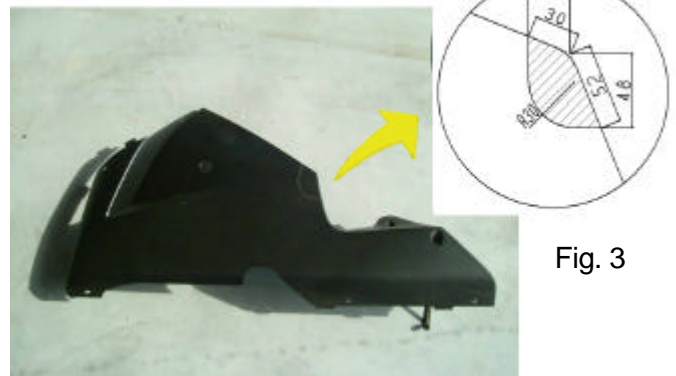

Fig. 3
- In case of reverse position, cut the under cowl not to contact to the change arm. (Fig. 3)